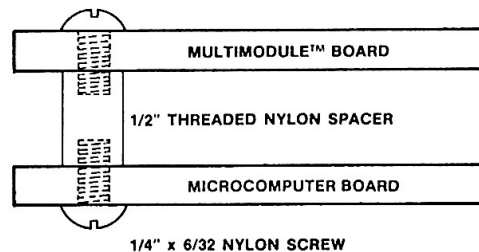

Figure 2-10. Multimodule Board Installation
- With one of the screws, secure the plastic spacer to the host iSBC microcomputer board as shown in Figure 2-10.